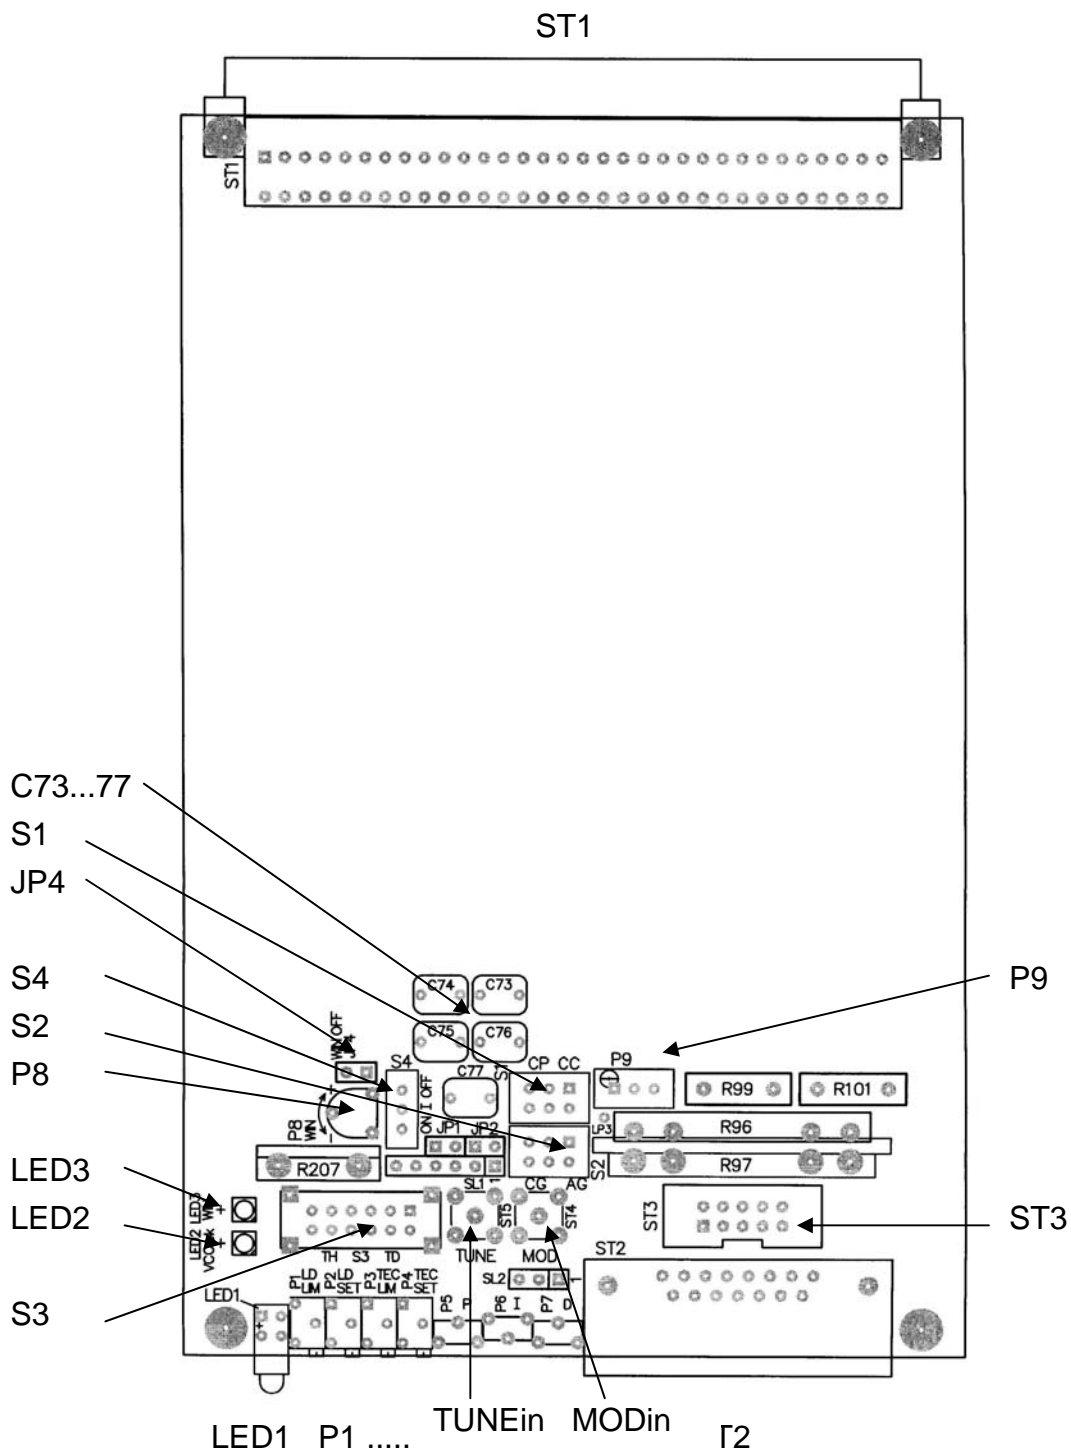

Figure 2 ITC100 operating elements
- Switch to the left in Figure 2 defines constant power mode (CP)
- Switch to the right defines constant current mode (CC)
- Switch to the left in Figure 2 defines cathode grounded(CG)
- Switch to the right defines anode grounded (AG)
- Switch to the left in Figure 2 defines thermistor
- Switch in direction ST2 in Figure 2 turns TEC I-share ON